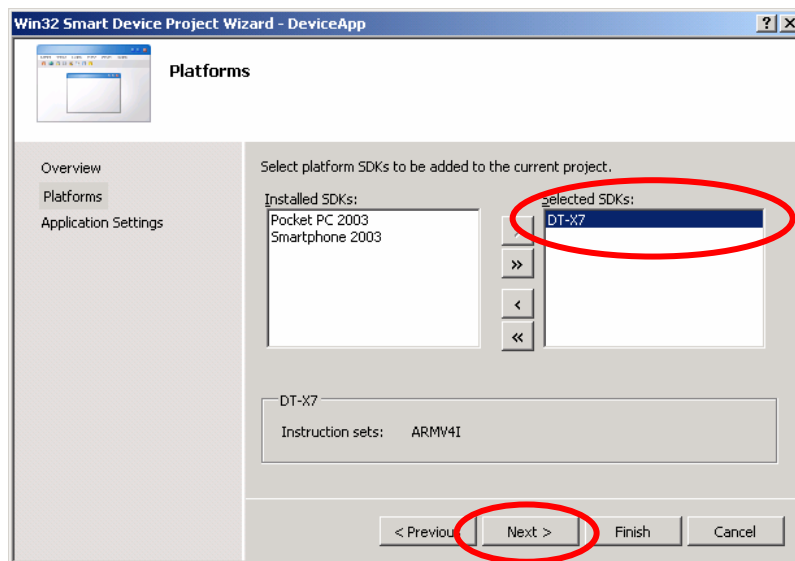

Figure 9.5
4. Click **Next >** button while **DT-X7** is kept being highlighted in the Selectd BDKs (or Selected SDKs in Figure 9.5) field.